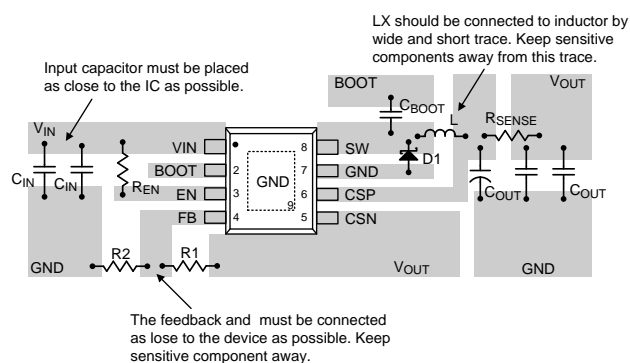

Figure 3. PCB Layout Guide
- ▶ An example of PCB layout guide is shown in Figure 3 for reference.